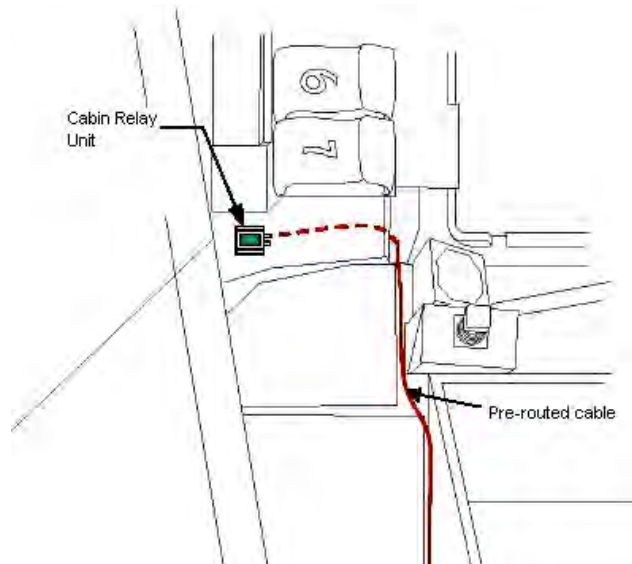

Figure 8-6.- Aft STBD location.
Remove Cabin Relay Units (2) from aft cabin (see figs 8-6 and 8-7)